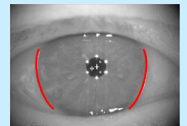

Fig. 6
- Check the position of the marked **edges of the iris**. Repeat the measurement if required. The measurements are not valid and cannot be edited until they have been confirmed by clicking on **OK** (Fig. 6).